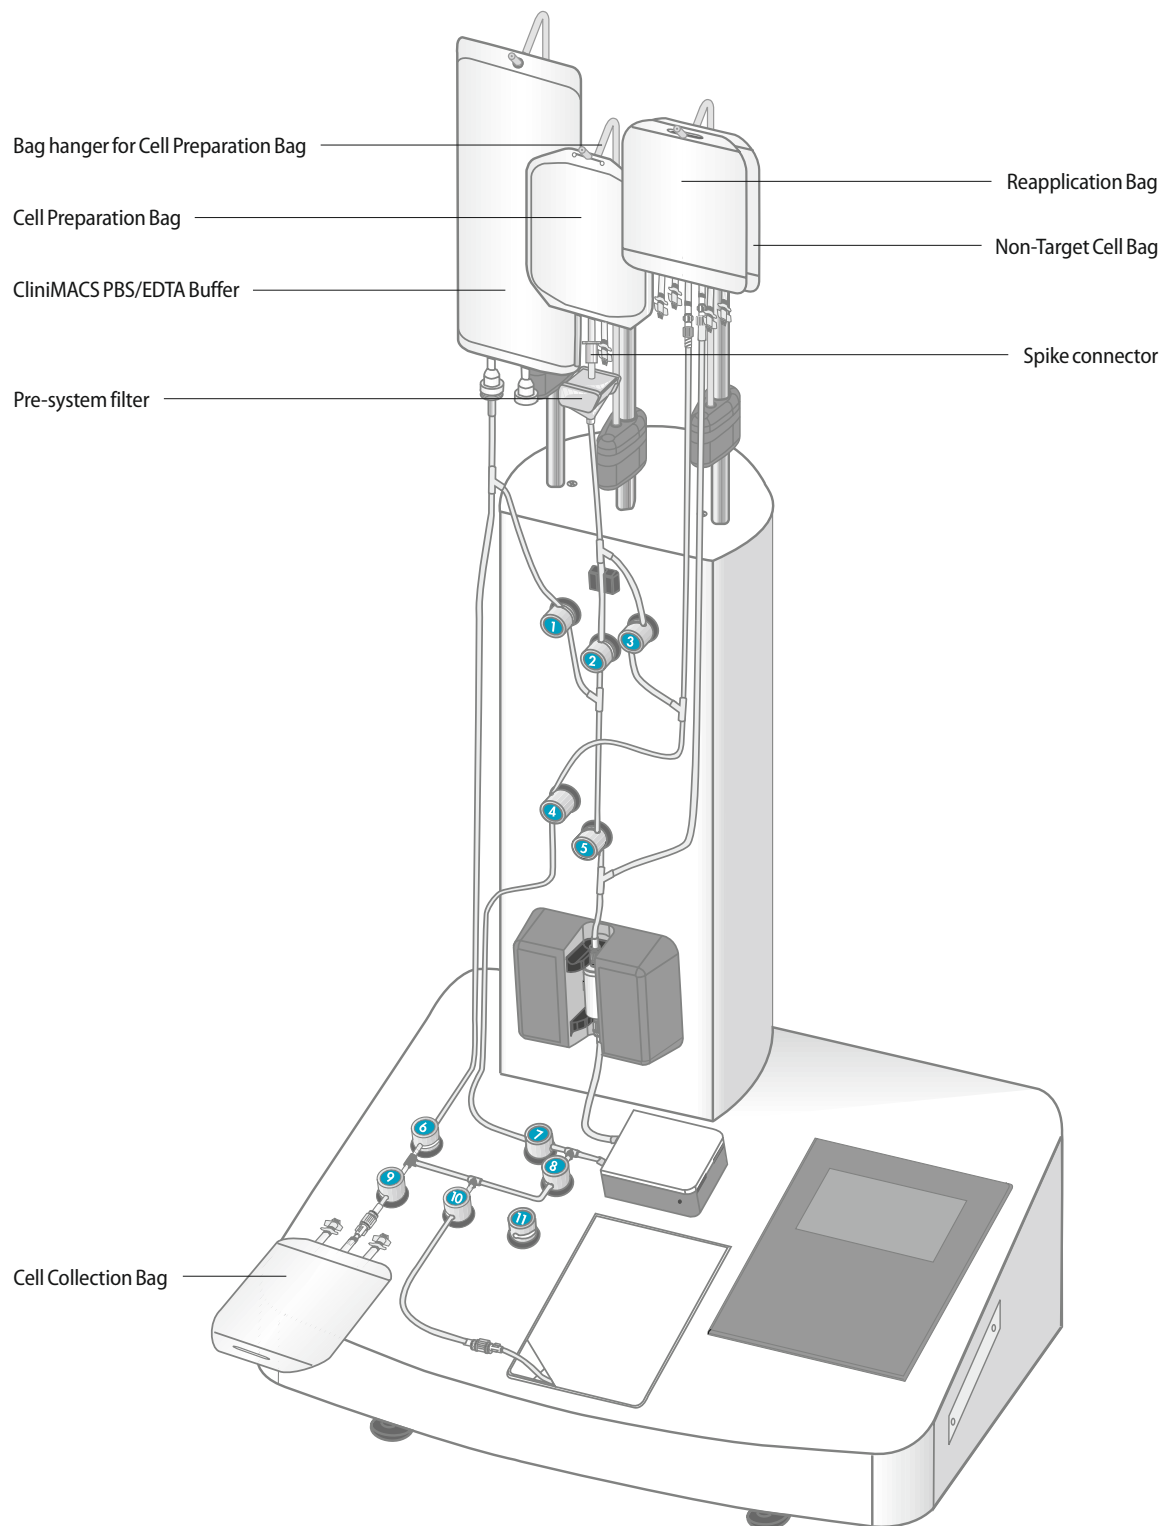

Figure 4-3.9: CliniMACS Plus Instrument with CliniMACS Depletion Tubing Set, CliniMACS PBS/EDTA Buffer, Cell Preparation Bag, and Cell Collection Bag
After the priming phase has been completed and no leaks or malfunctions are observed, the Cell Preparation Bag can be attached (see Figure 4-3.9). Use aseptic techniques for all steps.
6. Hang the Cell Preparation Bag on the bag hanger (see Figure 4-3.9).